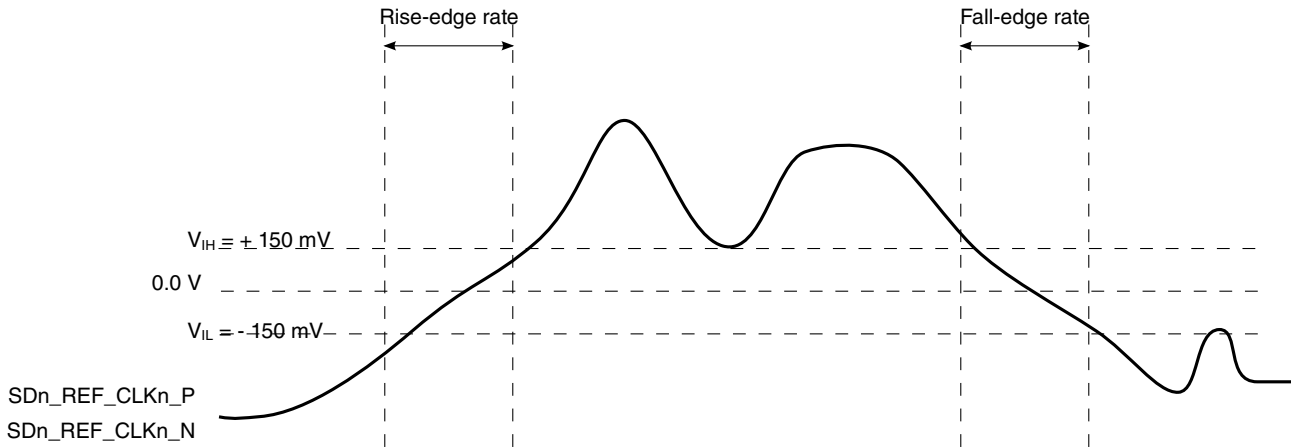

Figure 82. Differential measurement points for rise and fall time
9. Measured from -150 mV to +150 mV on the differential waveform (derived from SD _n _REF_CLK _n _P minus SD _n _REF_CLK _n _N). The signal must be monotonic through the measurement region for rise and fall time. The 300 mV measurement window is centered on the differential zero crossing. See Figure 82 .